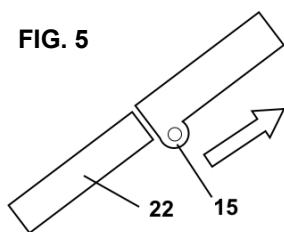

FIG. 5
2. Align the lower shaft (22) with the clamp (15) so that the slot is orientated to the slot in the clamp (Fig. 5).